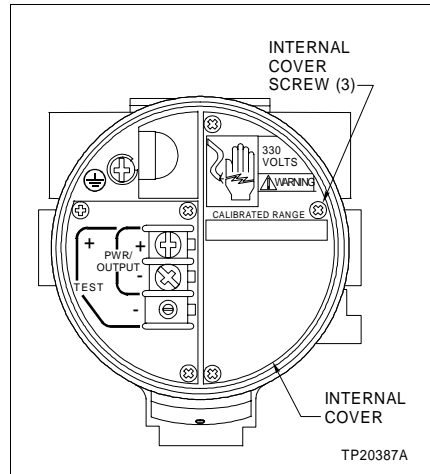

Figure C1-2. Internal Cover
3. Remove the three internal cover screws and remove the internal cover (Fig. C1-2).